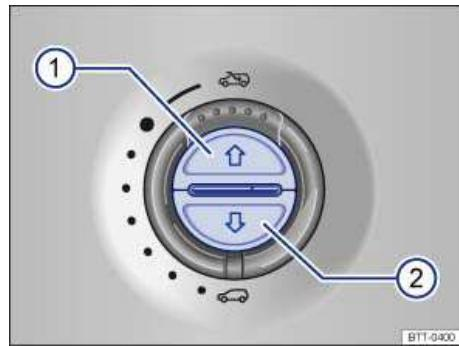

Fig. 38 In the headliner: Buttons for sunshade.
| To open fully (one-touch feature): | Briefly press the fig. 38 (1) button. |
| To stop the (one-touch feature): | Briefly press the fig. 38 (1) button or the (2) button. |
| To set an intermediate position: | Keep the fig. 38 (1) button or (2) button pressed until the position has been reached. |
| To close fully (one-touch feature): | Briefly press the fig. 38 (2) button. |
- **Sunshade:** Within 5 seconds after the pinch protection was triggered, press the ⇒fig. 38 \(2\) switch until the sunshade is fully closed.